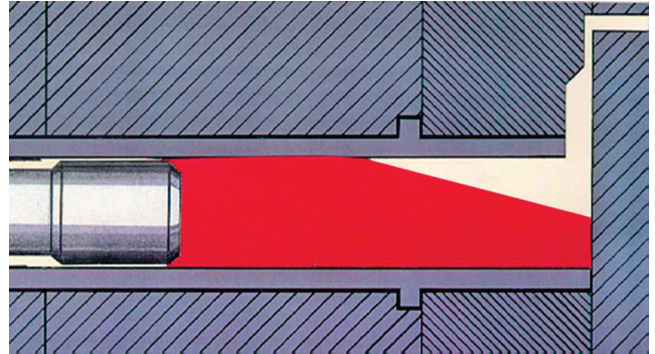

Figure 4 – A slow shot with critical slow shot velocity and constant acceleration reduces air entrapment.
- Figure 4 shows the “Critical” or desired wave front for reducing air entrapment.